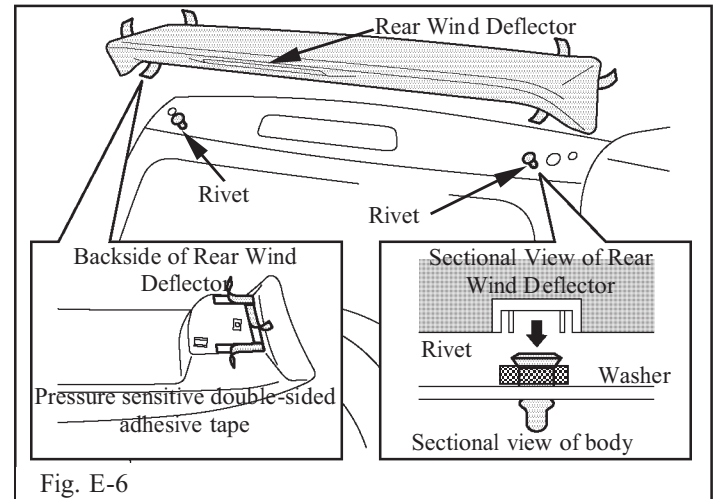

Fig. E-6
- ➔ 7. Remove the plastic liners from the two stanchion adhesive pads. Be careful not to touch or allow any contaminants to come into contact with the pads. (Fig. E-6)
- ➔ 8. While supporting the wind deflector above the rear mounting surface, align the deflector studs over the mounting holes on the back door. Carefully lower the wind deflector into place and apply pressure on each stanchion until the deflector is secure. (Fig E-6)